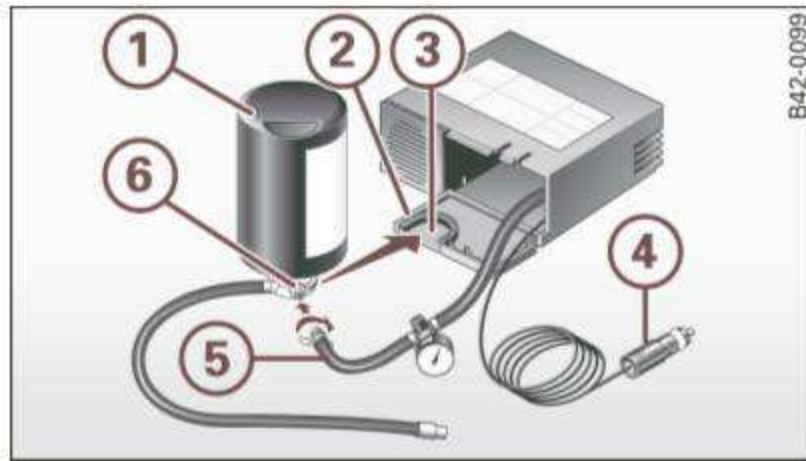
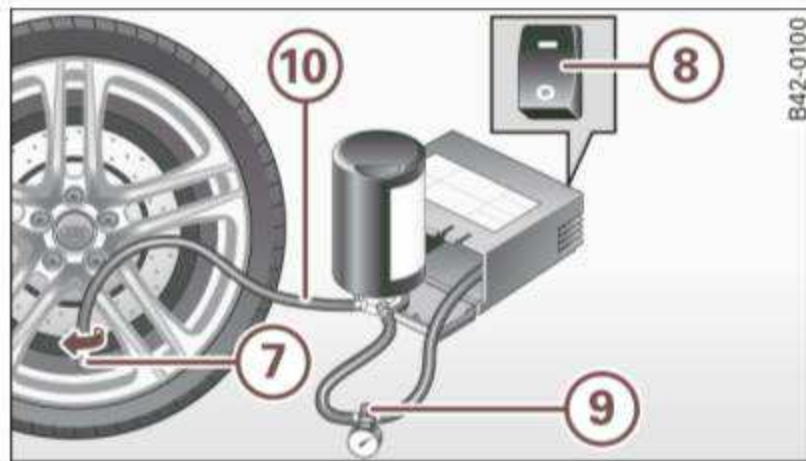

Fig. 129 Parts of the Tire Mobility System
Fig. 130 Connector for the Tire Mobility System
- Open the lid (2) of the electric air pump ⇒ fig. 129.
- Pull the plug (4) and the pressure hose (5) with the gauge out of the housing.
- Screw the pressure hose (5) of the electric air pump onto the flange (6) of the sealant bottle (1).
- Push the sealant bottle with the flange down into the recess (3) on the lid of the electric air pump.
- Screw the hose (10) onto the valve (7) ⇒ fig. 130.
- Insert the plug (4) ⇒ fig. 129 into the socket for the cigarette lighter.
- Move the switch (8) ⇒ fig. 130 on the electric air pump⁴⁾ to position **I**. After 5 minutes, tire pressure must have reached at least 1.8 bar.
- Remove the empty inflation bottle and screw the hose (5) (5) ⇒ fig. 129 from the electric pump directly onto the valve.
- Insert the plug (4) into the socket for the cigarette lighter.
- Move the switch (8) ⇒ fig. 130 on the electric air pump⁴⁾ to position **I**. After 5 minutes, tire pressure must have reached at least 1.8 bar. ▶